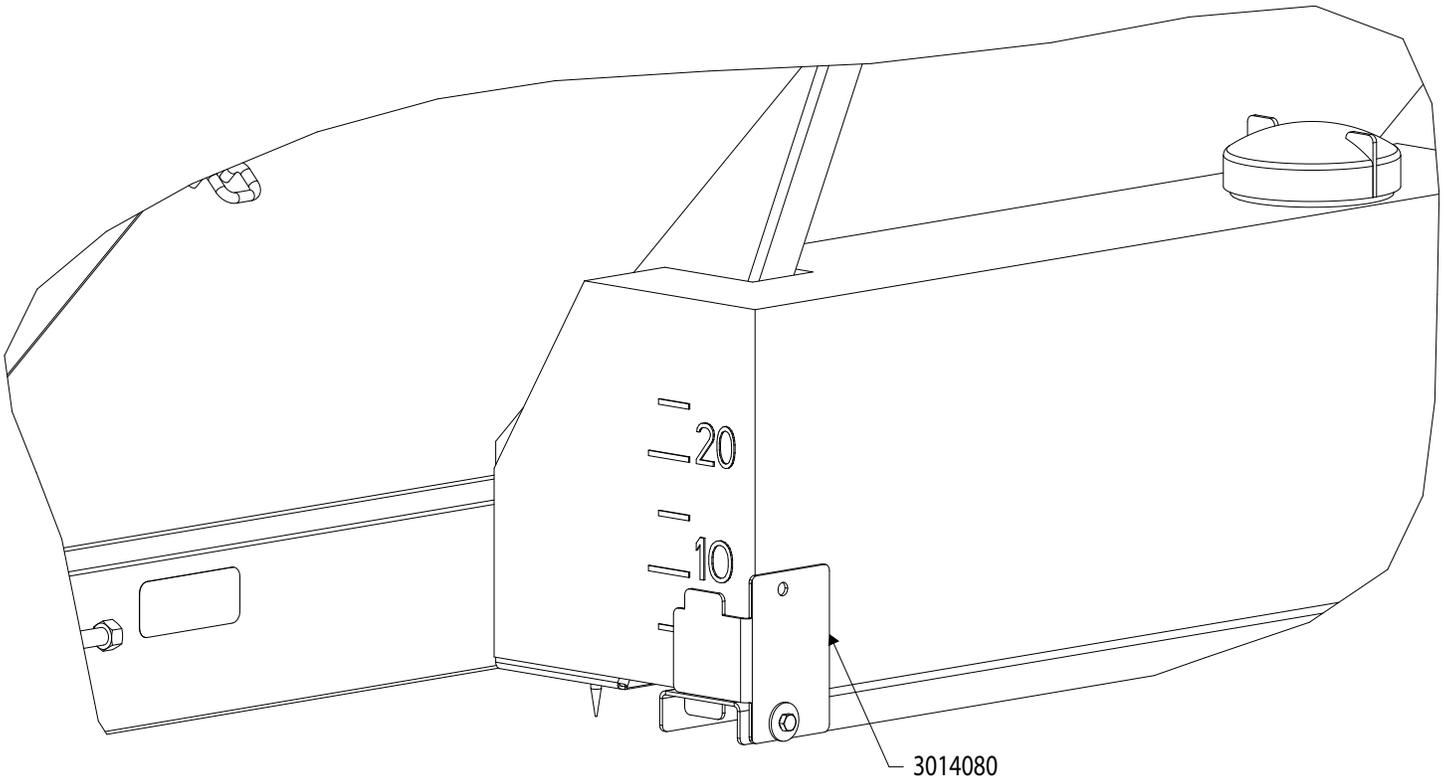

Fig. 3
4. Secure Tank on Support using 2 locators (#3014080) and provided hardware as shown in Fig.3.